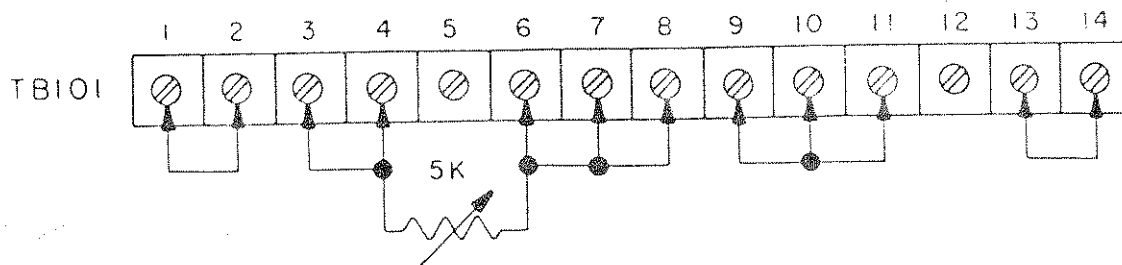

FIGURE 4 REMOTE PROGRAMMING BY EXTERNAL RESISTANCE, VOLTAGE MODE.
3.3.4 REMOTE PROGRAMMING by EXTERNAL RESISTANCE (Figure 4 & 5)